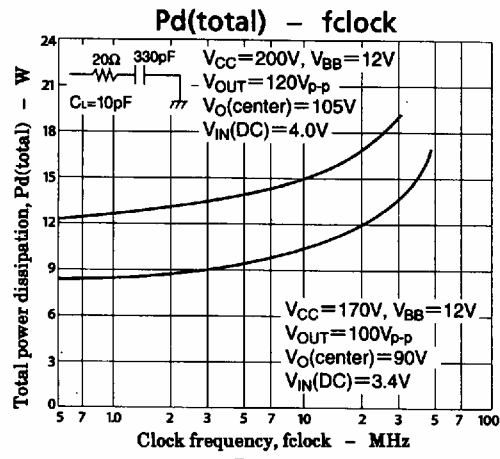

Fig.1
The temperature and the loss of the transistor chips depend on the operating frequency, and their values differ one another. Thermal calculations should be carried out for the largest-loss transistor at the maximum operating frequency of 30MHz (clock). The largest-loss transistor is Tr2 in the internal circuit schematic. It shares about 24% of the total loss shown in the Fig.1. Each transistor's T_j is calculated by next equation.
As mentioned above, the largest-loss transistor is Tr2, and the value is obtained from Figs. 1 and 2 and the equation (4) ;